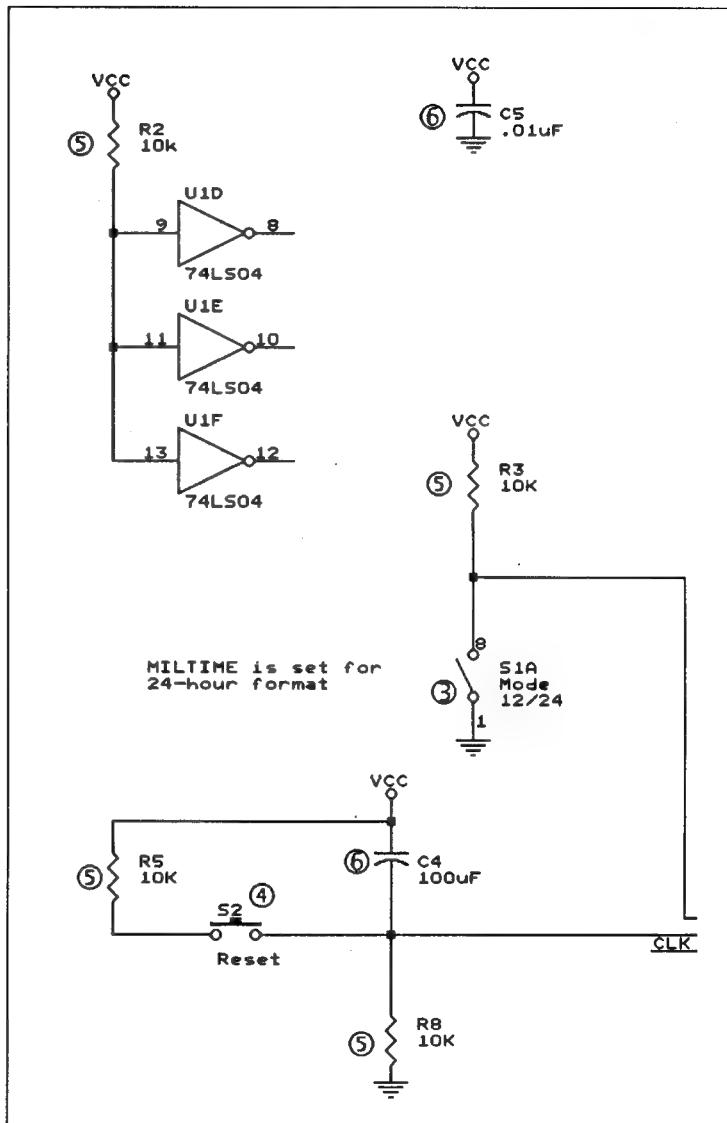

Figure 6-8. Switches, resistors, and other parts to be placed. The callouts refer to the step numbers in this section.
Four resistors, three inverters, two capacitors, two switches, and several power and ground symbols are needed to complete the logic and display circuit schematic. Figure 6-8 shows the arrangement of these parts.
Refer to figure 6-8 as you follow these steps:
3. With the part selected and the outline showing on the screen, select Rotate to turn the part so the orientation matches that shown in figure 6-8. Move the part to location (2.70, 6.00) and place it.
5. Get a resistor (R) and place four copies at locations (.50, 2.70), (2.70, 4.80), (.50, 7.10), and (2.20, 8.10).